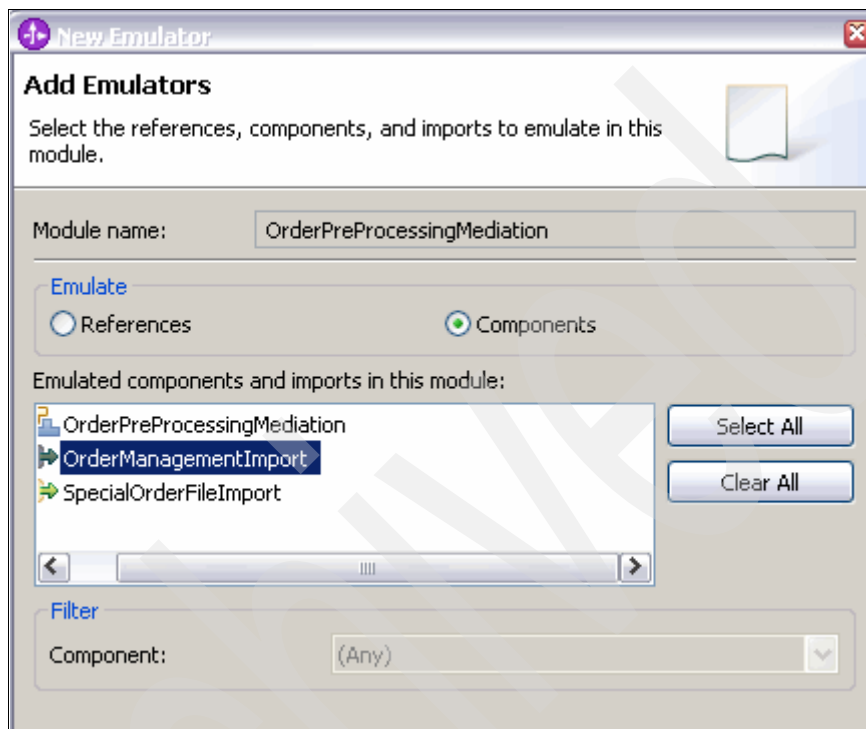

Figure 7-32 Select the component to emulate
4. Select **Module OrderPreProcessingMediation**. Click **Next**. Select **Components** and select **OrderManagementImport** (as shown in Figure 7-32). Click **OK**.